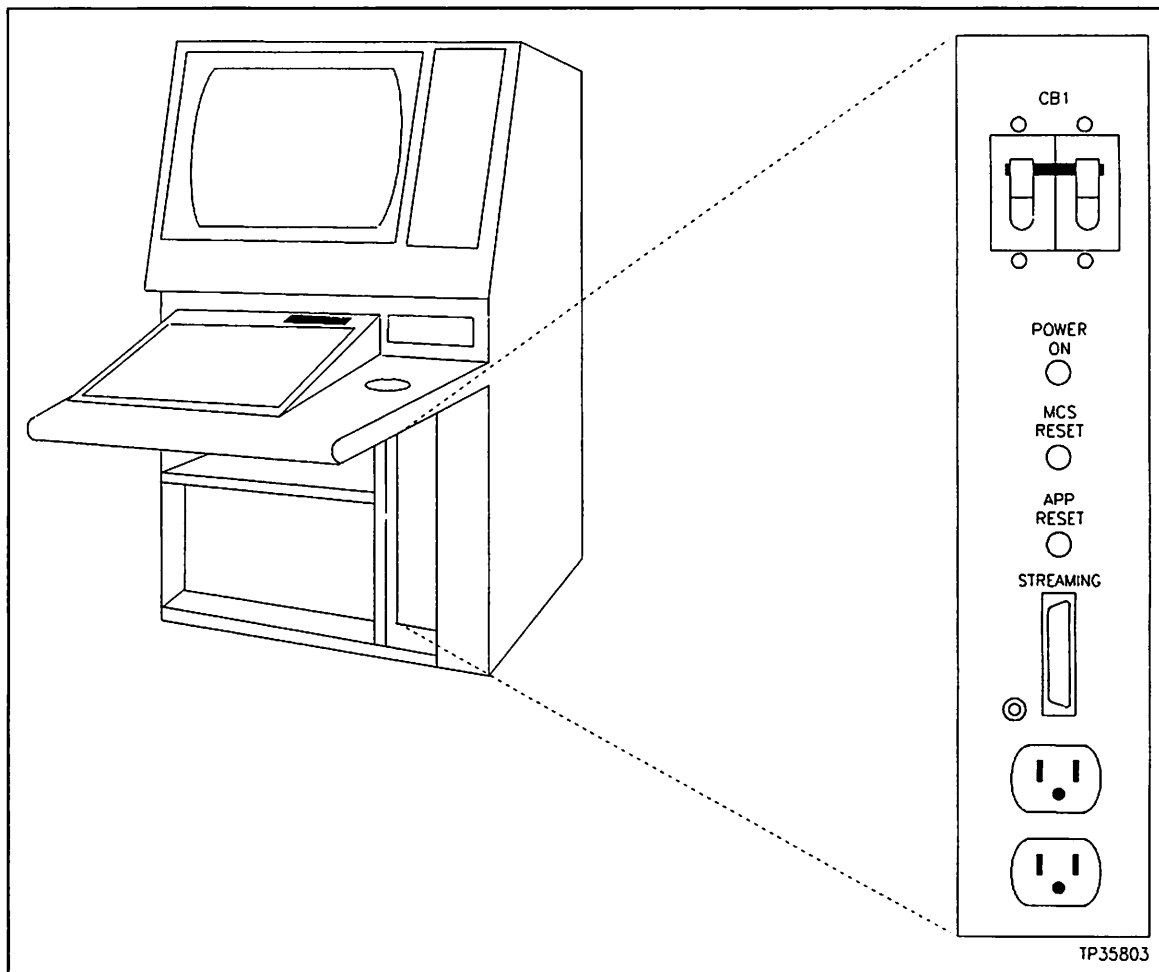

Figure 5-1. MCS Main Circuit Breaker
2. Apply power to the MCS by switching on the line circuit breaker located at the front of the MCS (Figure 5-1).